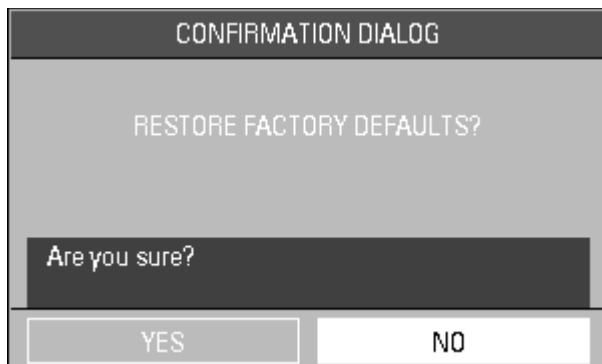

FIGURE 3-2 Confirmation Dialog Box
2. Choose **RESTORE FACTORY DEFAULTS**. The confirmation dialog box in FIGURE 3-2 is displayed.